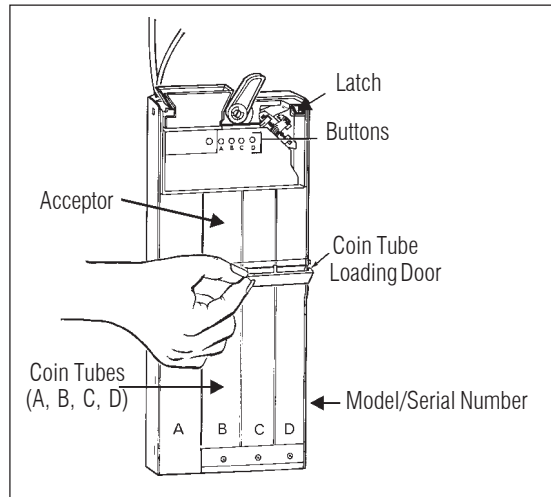

Figure 1
2. Remove the acceptor from the changer by pressing down on the acceptor latch and rotating the top of the acceptor forward, away from changer. Unplug the ribbon cable from changer. Remove the acceptor by freeing the lower acceptor studs from the changer housing. Place the acceptor in a clean area (see Figures 1 and 2).